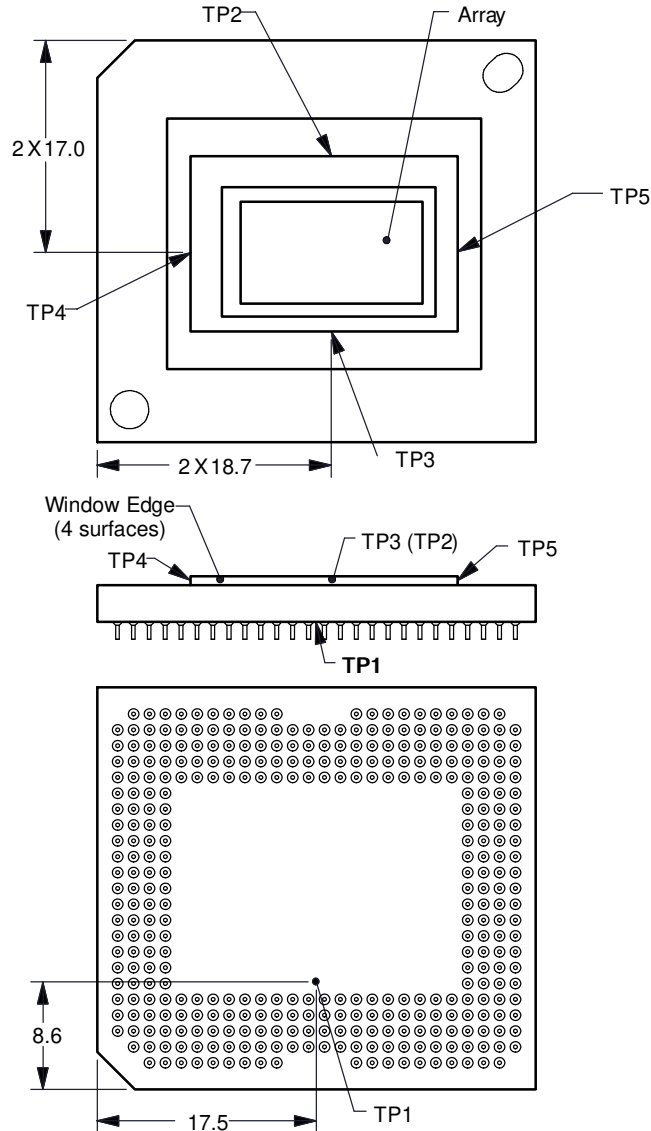

图 7-1. DMD Thermal Test Points
Micromirror array temperature cannot be measured directly, therefore it must be computed analytically from measurement points on the outside of the package, the package thermal resistance, the electrical power, and the illumination heat load. The relationship between array temperature and the reference ceramic temperature (thermal test TP1 in 图 7-1) is provided by the following equations:
- T_{CERAMIC} = measured ceramic temperature (°C), TP1 location in Figure 7-1
- Q_{ARRAY} = total DMD Power on array (W). (electrical + absorbed)
- $Q_{\text{ELECTRICAL}}$ = Nominal DMD electrical power dissipation (W)